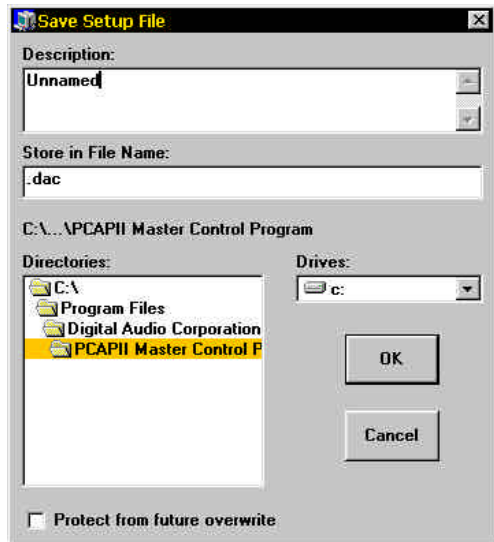

Figure 4-61 Save Setup File Window
1. Click on **File** on the Master Control menu bar. When the pulldown menu appears, click on **Save Setup File**. This will cause the window in Figure 4-61 to appear: